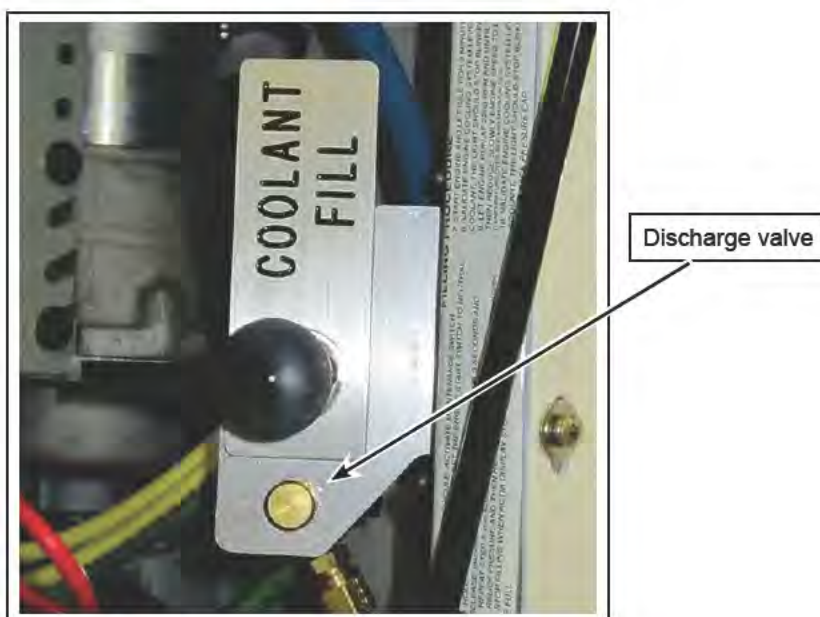

Figure 1 - Coolant Discharge Valve
- 1.2. Press on the discharge valve located on the curb side portion of the engine compartment to release the pressure from the coolant system. See Figure 1.